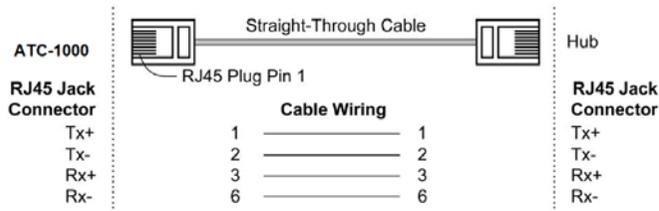
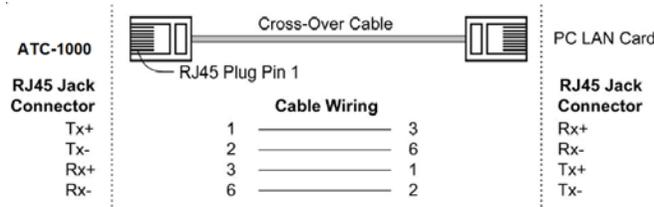

Fig. 1
Fig. 2
- Use a standard Ethernet cable to connect the XS1000 to an Ethernet switch (Fig. 1), or use a cross-over cable if you connect it directly to a PC (Fig. 2).